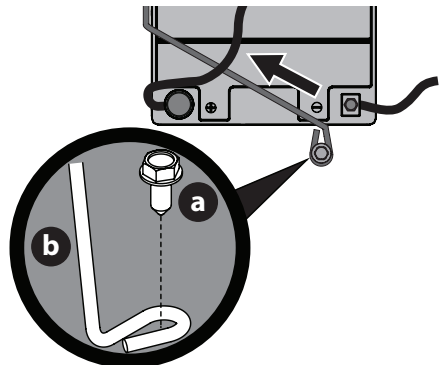

Figure 20
NOTE: Wiring harness should lay on top of battery hold down rod, otherwise damage to the wiring harness may result (Figure 20 on page 14).
3. Remove the hex washer screw (a) securing the battery hold-down rod (b) up to free the battery (Figure 20).